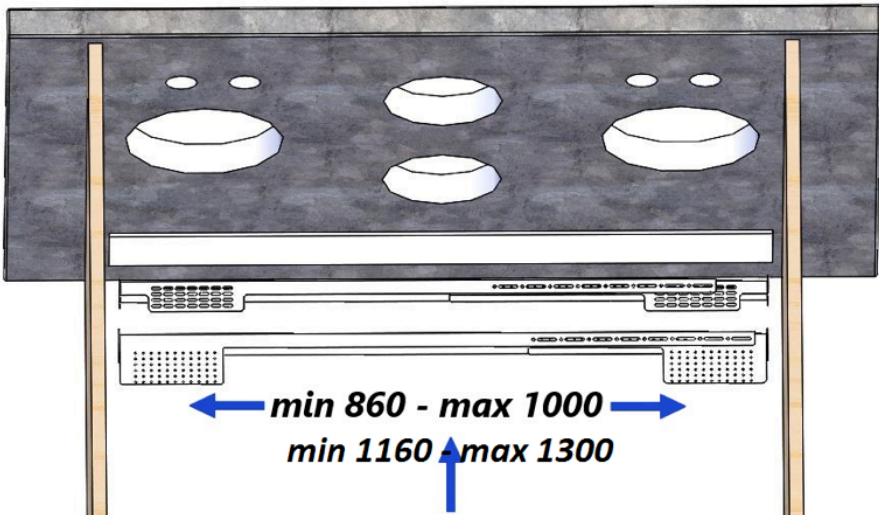

Fig. 5
5. Install the preassembled accessories in correspondence with the hole drilled (fig. 5), bearing in mind that they can cover different types of furniture from a minimum dimension of 860mm to a maximum dimension of 1000mm.